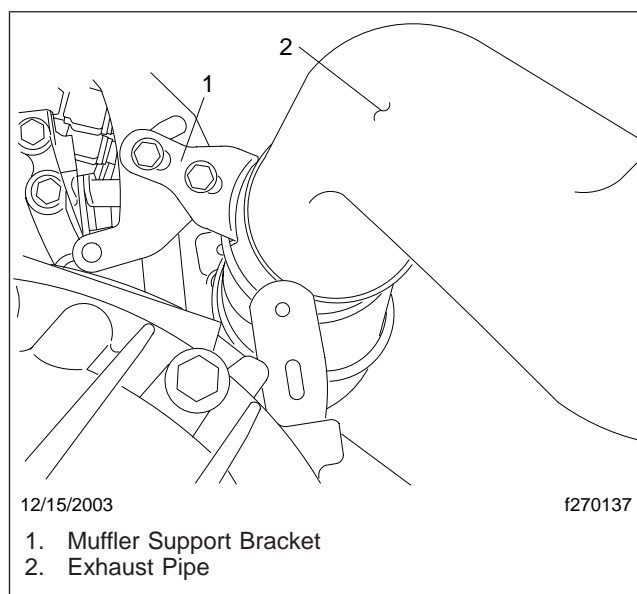

Fig. 14, Muffler Support Bracket
14. Remove the muffler support bracket which is supported by two of the transmission mounting bolts. See Fig. 14.